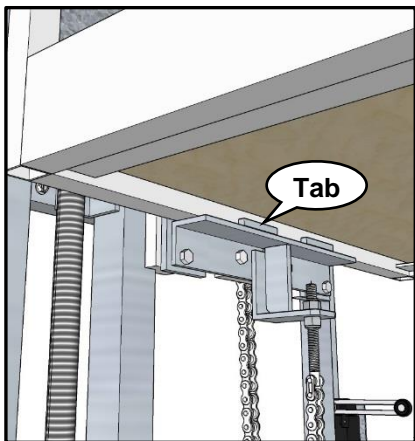

Figure 32
- 3** When positioning car on trolley, make sure the tabs are hooked under car as shown in Figure 32.